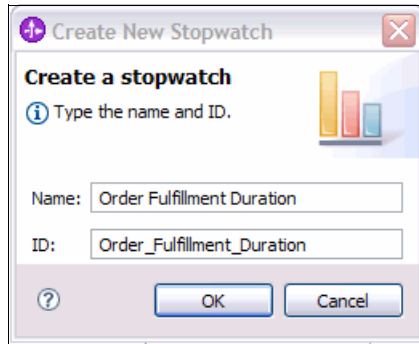

Figure 5-36 Creating a stopwatch
2. In the Create New Stopwatch window (Figure 5-36), for Name, type Order Fulfillment Duration and click **OK**.